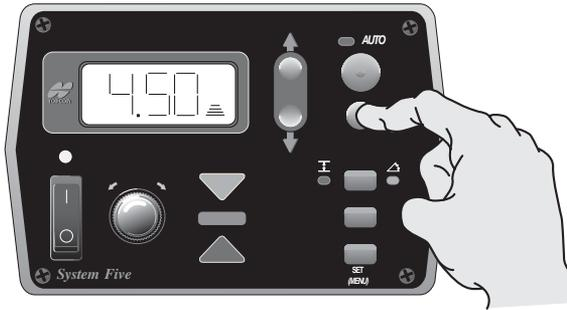

Figure 7-13. Survey to On-grade and Return to Automatic Control
- Without stopping, continue paving until the right tracker is on the base material of the intersecting road. Survey the tracker on-grade to the new reference (Figure 7-13) and put back into Automatic Control.